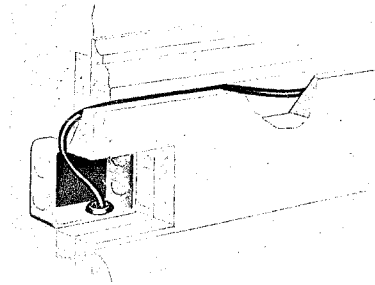

Fig. 8 — Wiring from Conduit to Baseboard
- Run wires along baseboards, on top of picture moldings, or on door or window casings, so that they will be as inconspicuous as possible (see Fig. 8, 9, and 10).